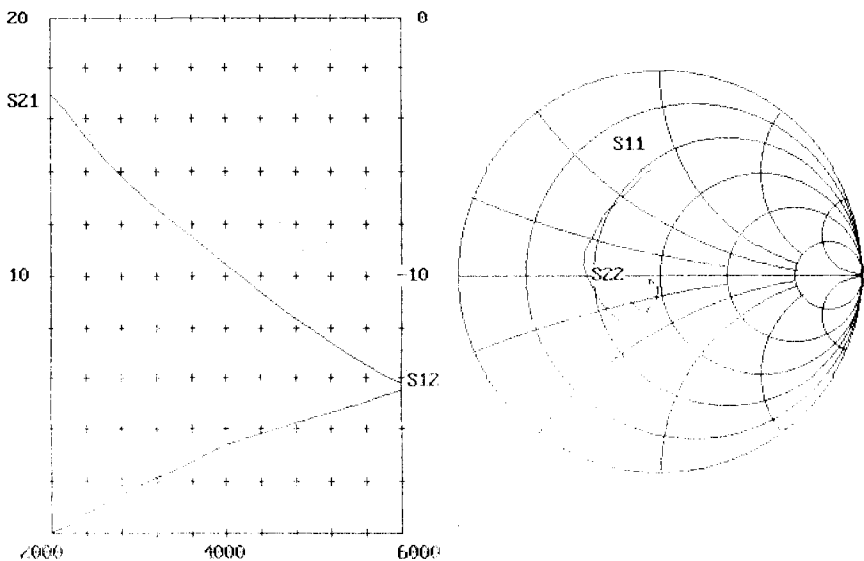

Fig 2—Transducer swept performance of the selected MMIC.
It's always a good idea to characterize the selected active device, before expending any effort in circuit design. The S-parameters listed in Table 3 are typed into an ASCII data file, which is accessed by the SuperStar analysis software in the circuit file shown at the top of Table 6. The program produces a listing of input and output VSWR, forward and reverse gain, and Rollet's Stability Factor (K), over the selected frequency range, as seen in Table 6. These data, which represent the transducer performance of the active device (and can be similarly found for bipolar junction transistors and FETs), are shown graphically in Fig 2. Note that the forward gain drops from more than 16 dB at the low end of the band, to under 6 dB at the top frequency. Note also that the input match ( $S_{11}$ ) is fair across the band, and the output match ( $S_{22}$ ) is excellent, as seen by its proximity to the middle of the Smith Chart.
bears scant resemblance to the stub which was applied to the MMIC alone, as in Table 6. This is because the transducer characteristics with and without swamping differ considerably, as seen by comparing Figs 2 and 5.